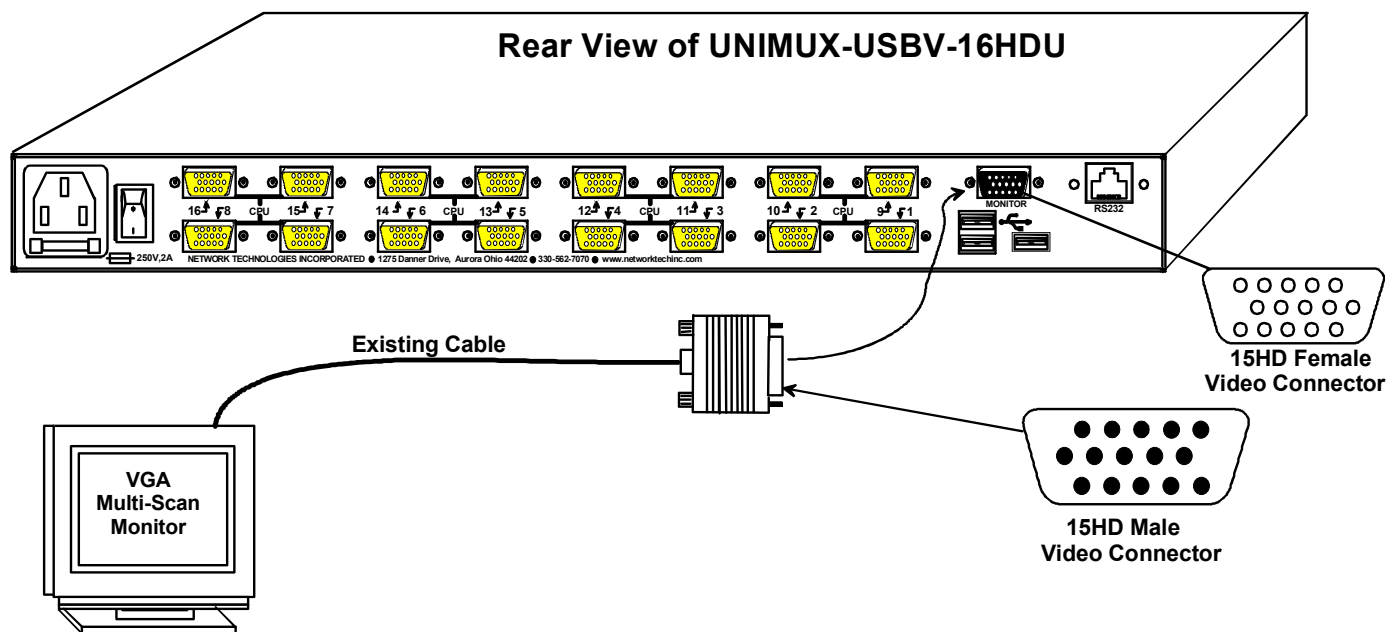
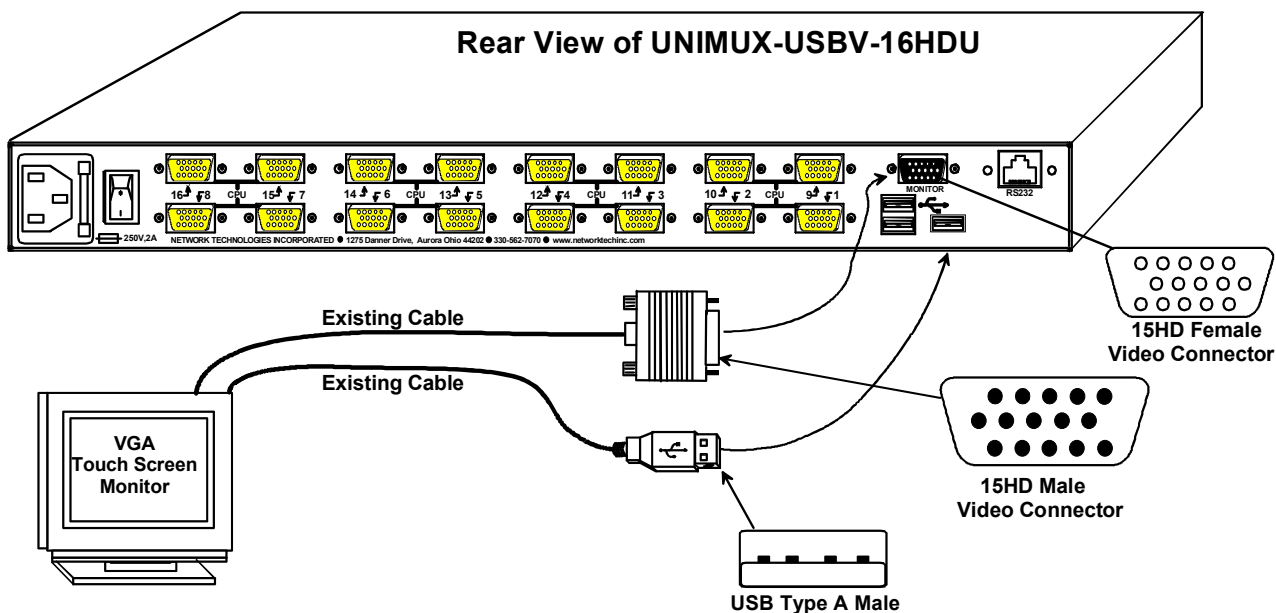

Figure 3- Install user monitor
Figure 4- Install user touch screen monitor
1. Connect the 15HD male cable end from the user monitor to the female black 15HD port marked "MONITOR x" on the rear of the UNIMUX switch (see Figure 3). If a touch screen monitor is being connected (models with touch screen support only), connect the USB cable from the monitor to any one of the USB type A connectors in the same user device port group (see Figure 4).